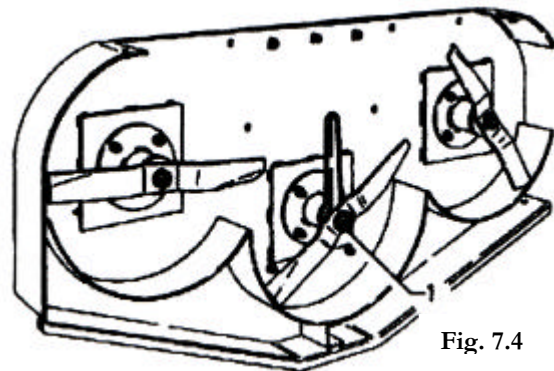

Fig. 7.4
- Using the key, unscrew the nut "1" and remove the blade. **(Fig. 7.4)**